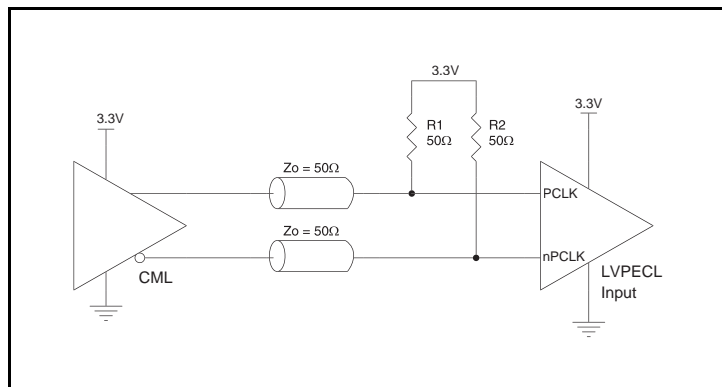

**Figure 1B. Alternative DC Coupling a Single LVC MOS Input to the 8SLVP1204**
A practical method to implement  $V_{th}$  is shown in *Figure 1B* below. The reference voltage  $V_{th} = V_1 = V_{CC}/2$ , is generated by the bias resistors  $R_1$  and  $R_2$ . The bypass capacitor ( $C_1$ ) is used to help filter noise on the DC bias. This bias circuit should be located as close to the input pin as possible.
*Figure 1B* shows a way to attenuate the PCLK input level by a factor of two as well as matching the transmission line between the LVC MOS driver and the 8SLVP1204 at both the source and the load.
Though some of the recommended components of *Figure 1B* might not be used, the pads should be placed in the layout so that they can be utilized for debugging purposes. The datasheet specifications are characterized and guaranteed by using a differential signal.